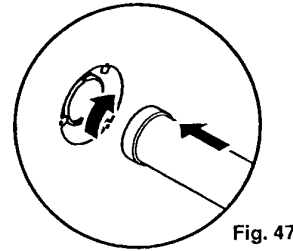

Fig. 47
3. Locate the swaged end of the flue duct over the bayonet fitting on the turret, taking care not to damage the 'O' ring. Lock the flue in place by pressing in and turning clockwise (Fig. 47).